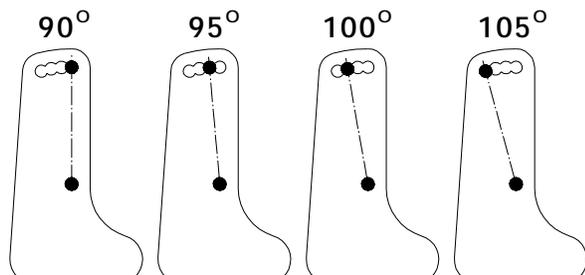

FIGURE 3 - CHANGING BACK ANGLE
### CHANGING BACK ANGLE (FIGURE 3)
2. Remove the TOP hex bolt, two (2) washers and locknut that secure the back cane to the mounting plate on the wheelchair frame.
3. Refer to DETAIL "B" in FIGURE 3 to determine the mounting plate hole for the desired back angle.
5. Reinstall TOP hex bolt, two (2) washers and locknut. Refer to FIGURE 3 for correct hardware orientation.